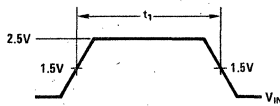

FIGURE 1
4. Set-up time ( $t_1$ ) for input trigger pulse must be  $> 40$  ns. (See Figure 1).